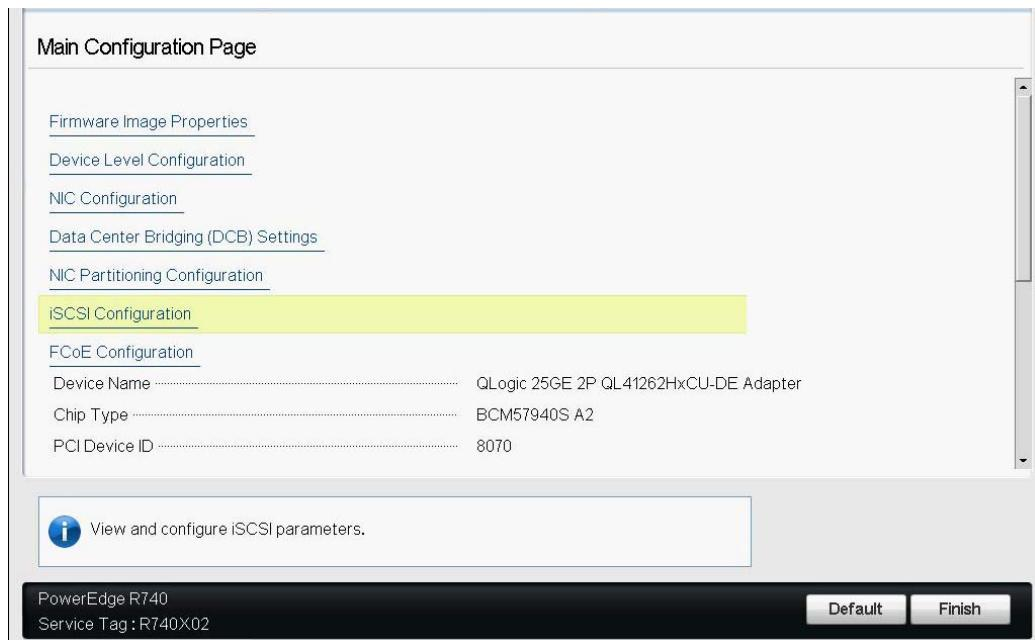

Figure 9-6. System Setup: iSCSI Configuration
1. In the Device HII Main Configuration Page, select **iSCSI Configuration** (Figure 9-6), and then press ENTER.